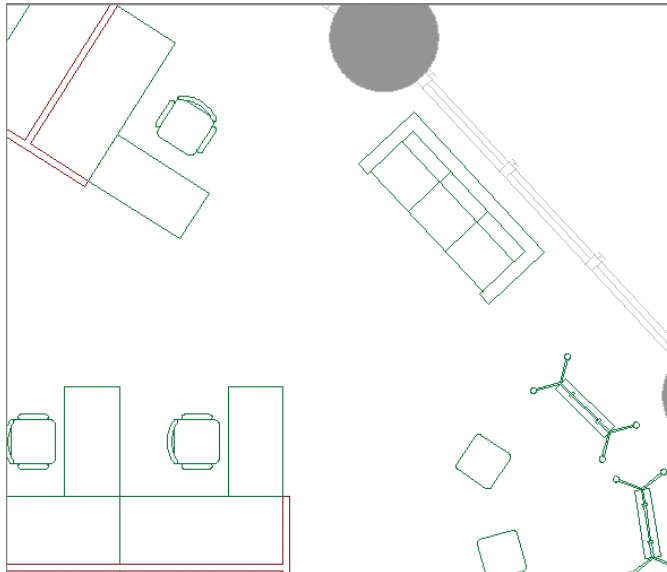

FIGURE 9.9 Inserting the new sofa
- Click approximately where you deleted the armchairs and side table to insert a Sofa2 block reference in the drawing, and estimate the rotation angle so that the sofa is parallel to the exterior wall (see Figure 9.9).